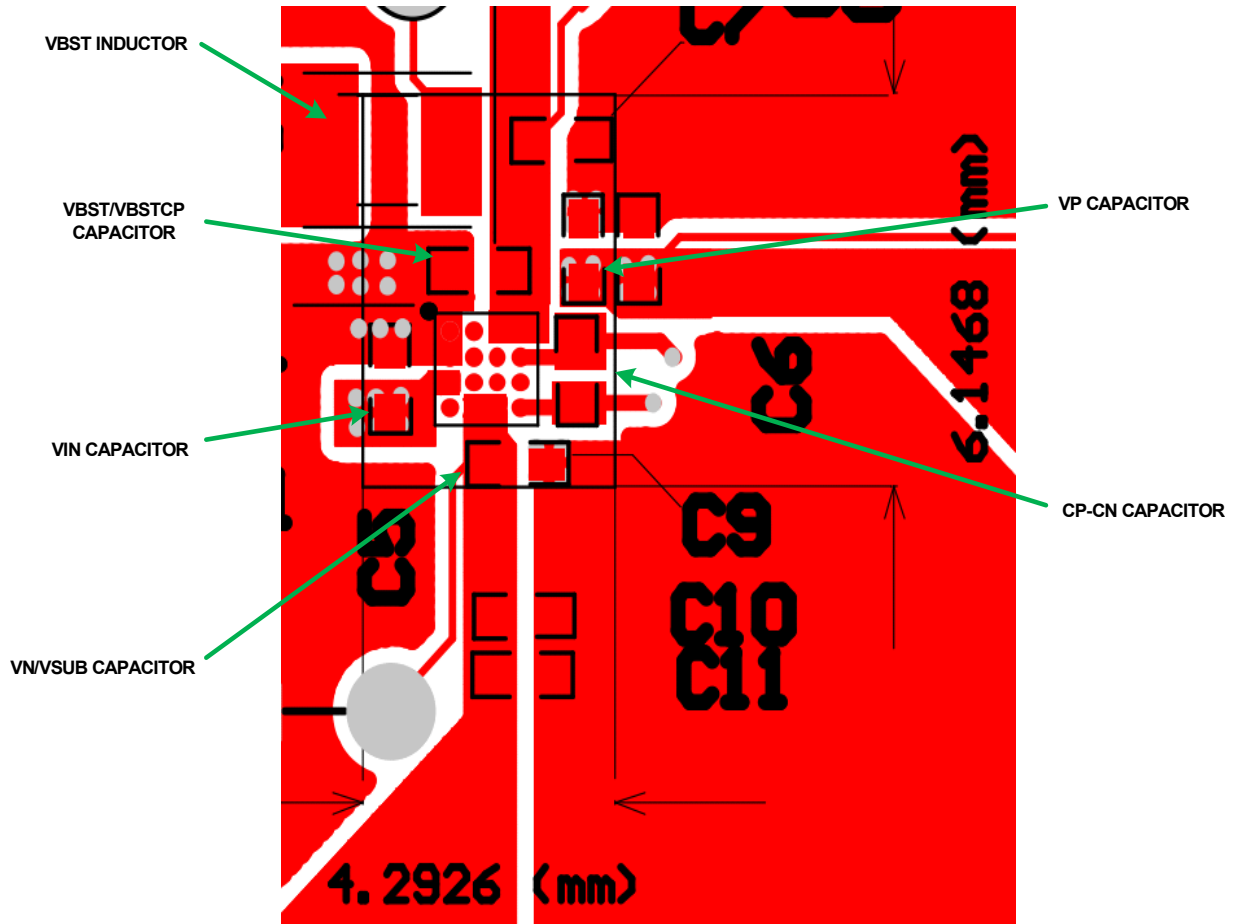

FIGURE 64. ISL98608IIH RECOMMENDED PCB LAYOUT
- Figure 64 on page 31 shows the recommended PCB layout for a typical ISL98608IIH application.